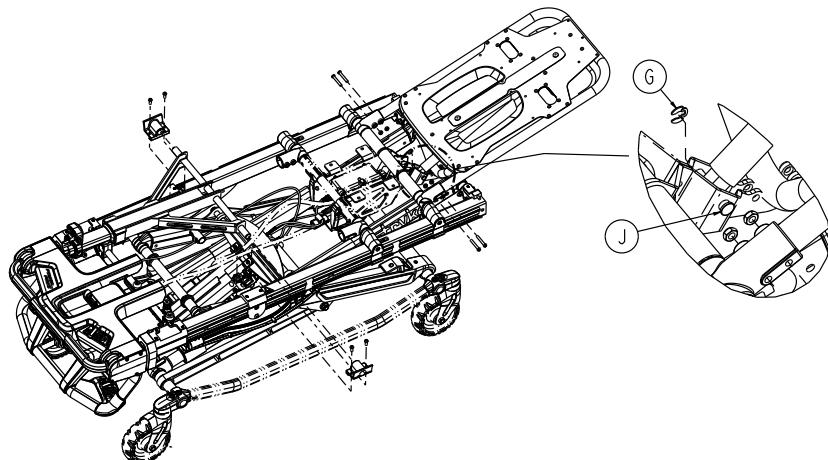

Figure 10 – Remove the truarc ring and Fowler cylinder pin
- Using a small slotted screwdriver, remove the truarc ring (G) and Fowler cylinder pin (J) that secure the bottom of the gas cylinder to the mount (Figure 10). Save the truarc ring and Fowler cylinder pin.